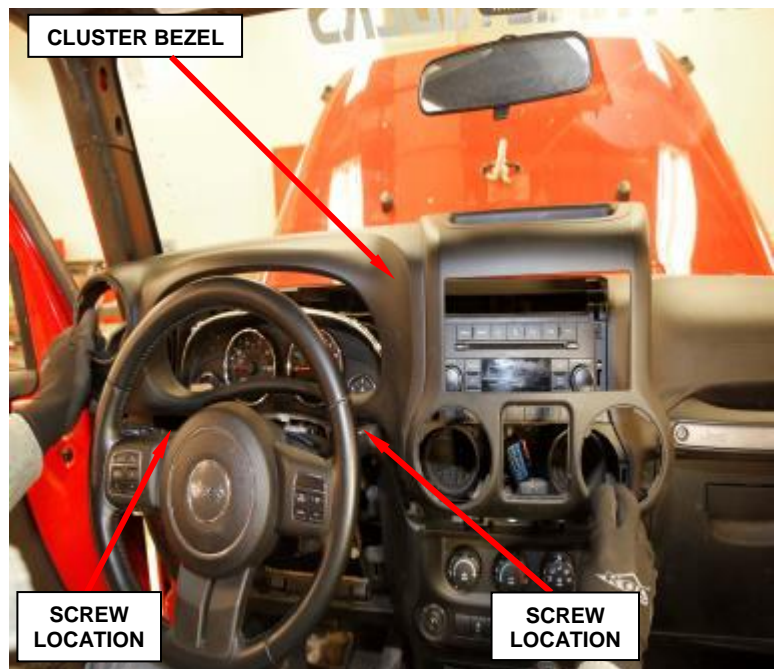

Figure 108 – Cluster Bezel Screws
19. Remove the two screws below the cluster on both sides of the steering column (Figure 108).